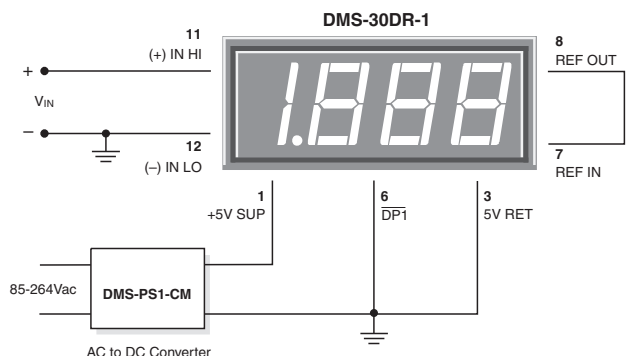

Figure 2. Single-Ended Input Configuration
1. Single-Ended Input Configurations: True single-ended measurements can be made with any DMS-30DR meter. The circuit of Figure 2 avoids problems normally associated with ground-loop currents. Separate ground runs should be used for 5V RETURN (pin 3) and (–) INPUT LO (pin 12). This will ensure that large LED currents will not flow in the wiring that connects V_{IN} to (–) INPUT LO (pin 12). Ground-loop currents can cause unstable readings.